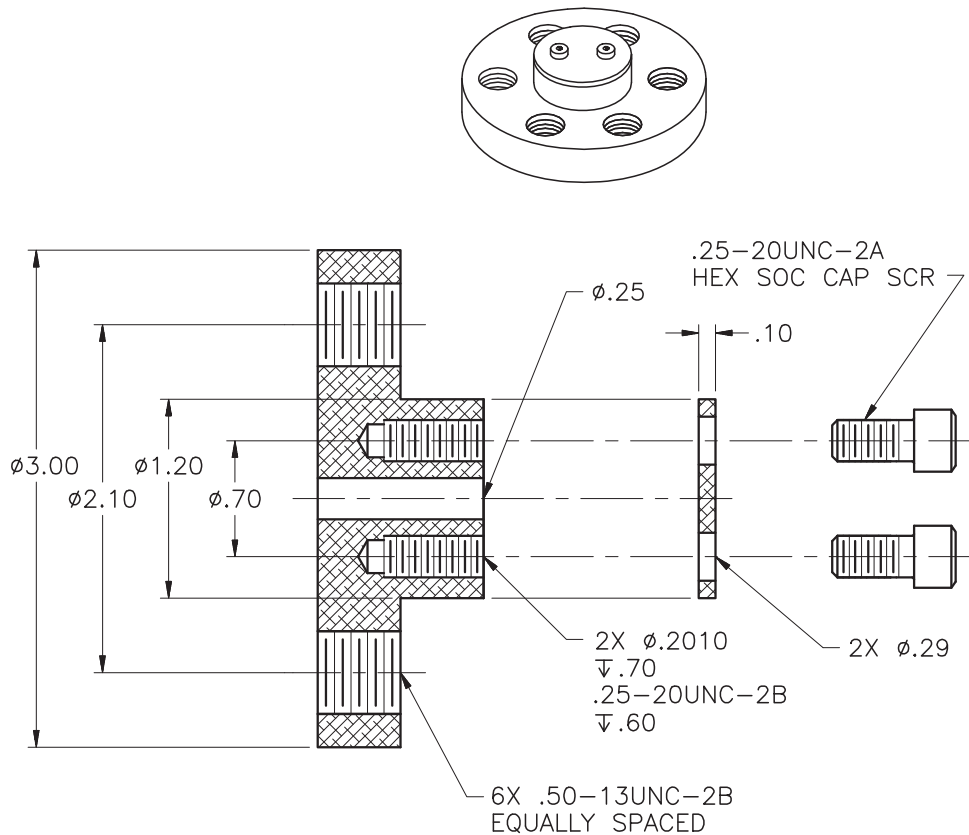

**Fig. 38-15**
7. Accurately draw an isometric representation of the orthographic views shown in Fig. 38-15. Draw and dimension the isometric according to the dimensions provided.